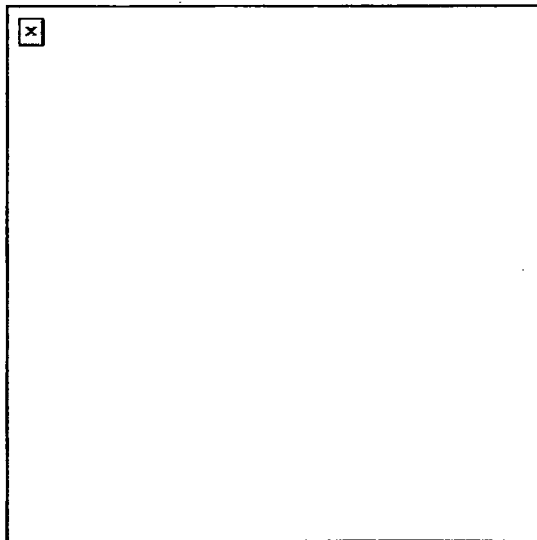

Figure 3. Attachment of the ammunition box.
5. Attach the ammunition box with linked 5.56-mm ammunition to the underside of the receiver. To do so, align the box latch with the dovetail on the receiver (Figure 3). Pull outward on the ammunition box to make sure the aligning box latch engages.